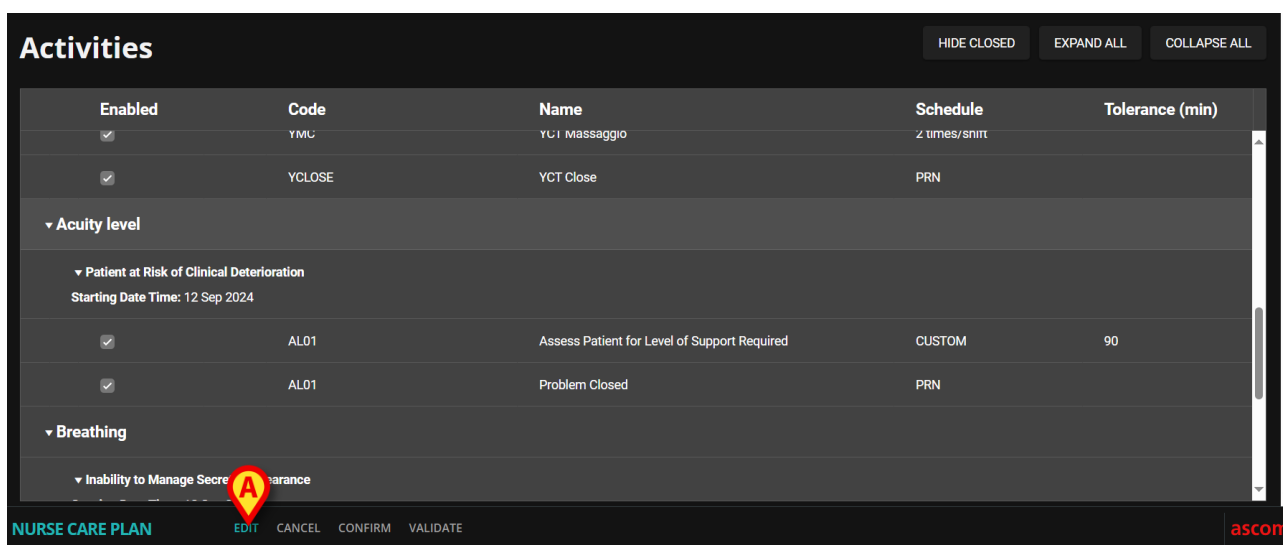

Fig 22
- Access the “Plan management” screen (Fig 22).
- Click the **Edit** button (Fig 22 A).